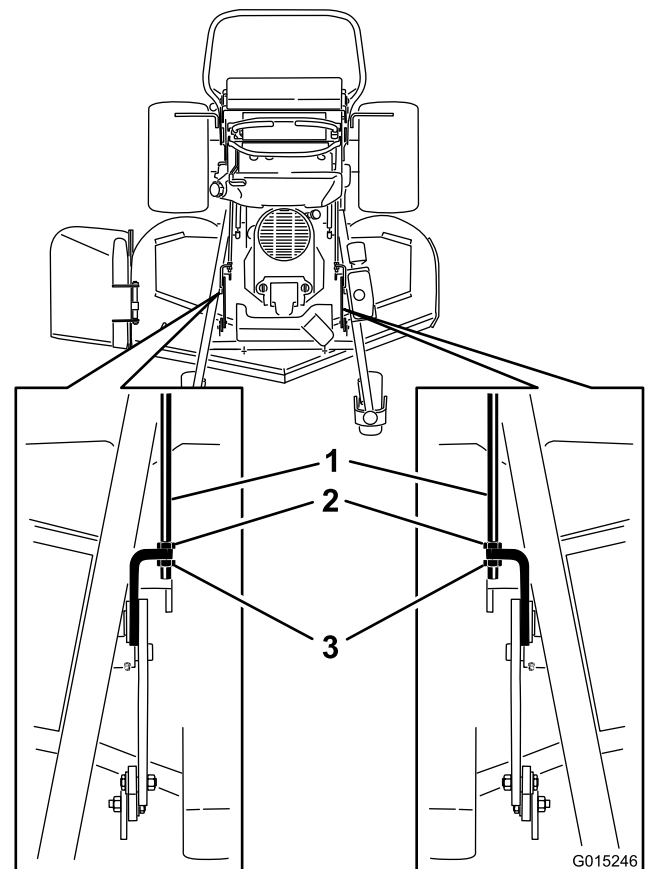

Figure 90
2. For 48 and 52 inch mower decks, loosen both the front and rear nuts on the adjustment rods (Figure 90).
4. The weight of the mower deck must be resting on all three of the 2x4's (Figure 90). The back lip of the mower deck is built a 1/4 inch (6mm) lower than the front lip of the mower deck.
8. If the dimensions are not correct, adjust the front and rear nuts on either side to get the correct front-to-rear pitch (Figure 90).